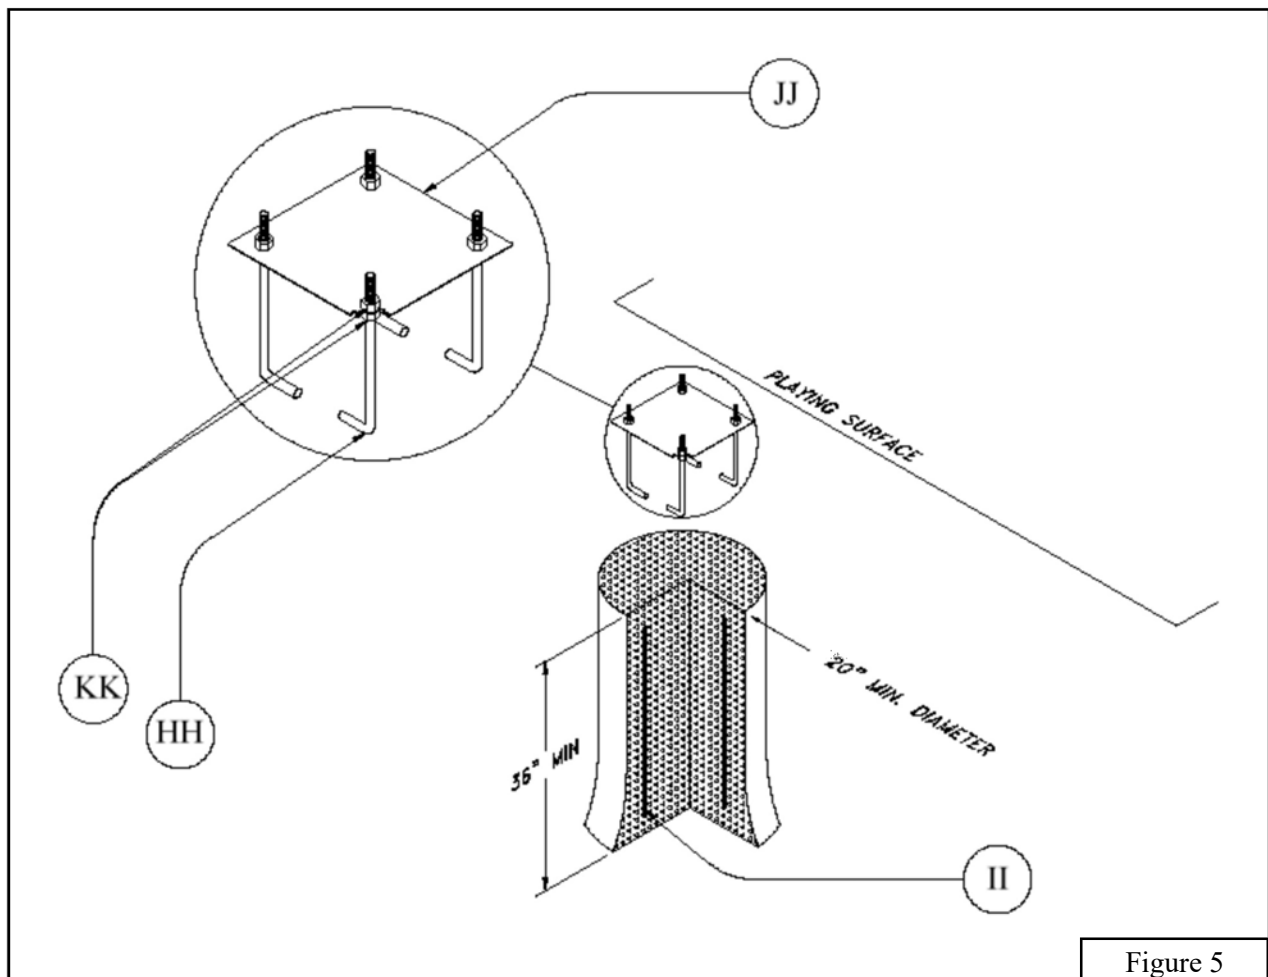

Figure 5
- 6b. Tighten all $1/2"$ *Button Head Screws* (B) only when the two *Pole Sections* (A) fit tightly together.
- 7b. Dig a hole a minimum of 20" in diameter and 36" deep. Bell out the bottom 12" of the hole to a diameter that is at least 4" larger than the diameter of the hole at the top. Digging the hole too big is better than digging it too small. See Figure 5.
- 8b. Prepare the "J" Bolt assembly by first threading a $5/8"$ *Hex Nut* (KK) onto each *"J" Bolt* (HH) so that approximately 2- $1/2"$ of thread is protruding above the nut. Place the threaded end of each *"J" Bolt* (HH) through the four holes in the *Template* (JJ). Thread a second $5/8"$ *Hex Nut* (KK) onto each *"J" Bolt* (HH) on the top side of the *Template* (JJ). Tighten the nuts on both sides of the *Template* (JJ), making sure that the same length of *"J" Bolt* (HH) (2" minimum) is protruding above the *Template* (JJ) in all four corners and that the *"J" Bolt* (HH) "legs" are pointing toward the center of the *Template* (JJ). See Figure 5.
- 10b. A 20" diameter by 36" deep hole, with additional soil removed from the bottom 1/3, will require approximately 7 cubic feet of *Premix Concrete* (N). Allow for more if the hole is deeper or wider. Make sure you have enough concrete on-site before pouring, because allowing a portion to dry before the hole is completely filled will affect the strength of the footing.
- ◆ Damaging threads on J-Bolts making it impossible to install 5/8" Hex Nuts (KK).
- 13b. Drop the *Rebar* (II) into the wet concrete to help support the concrete footing.
- 14b. Insert the "J" bolt assembly into the wet concrete. Be sure the *Template* (JJ) is parallel to the desired position of the backboard and the edge of the playing surface. Use the tape measure to double check. Vibrate the assembly as you insert it so that concrete fills in around the "J" Bolts (HH). Be sure the *Template* (JJ) is pressed firmly against the surface of the wet concrete. The top of the concrete footing should be flush with the playing surface. See Figure 5.
- 15b. Clean excess concrete from edge of hole and level the concrete from the edge of the *Template* (JJ) to the edge of the hole. **Allow concrete to cure for 4 days.**